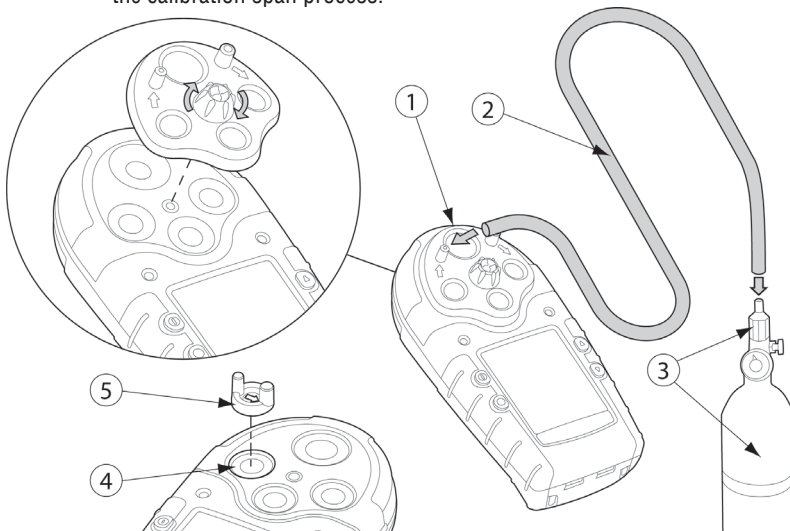

Figure 3. Applying Gas to the Sensors
The calibration cap, single gas calibration cap, and hose are shipped with the detector. Refer to Figure 3 and Table 10 for installation.
If an  $O_3$  or  $ClO_2$  sensor is located in the Toxic 2 position (refer to Figure 3 and Table 10), a single gas calibration cap must be used to ensure accurate calibration.
1. Insert the cap into the Toxic 2 sensor position on the detector (refer to Figure 3). Press firmly until the release tabs click.
- 5a. Attach the calibration cap (or single gas calibration cap for O3 and ClO2) and apply gas to the sensor(s). To attach caps, refer to Figure 3.